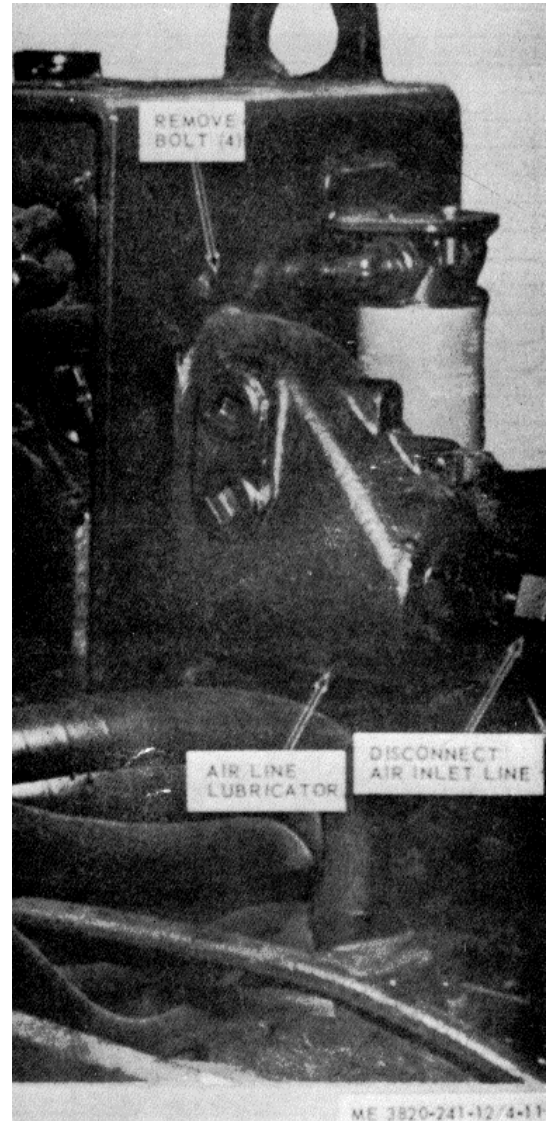

Figure 4-11. Air line lubricator, removal and installation
(2) Remove nipple (69), elbow (72), nipple (75), tee (78), nipple (79) and elbow (80).
(3) Remove the air line lubricator as illustrated in figure 4-11.
(1) Install the air line lubricator as illustrated in figure 4-11.